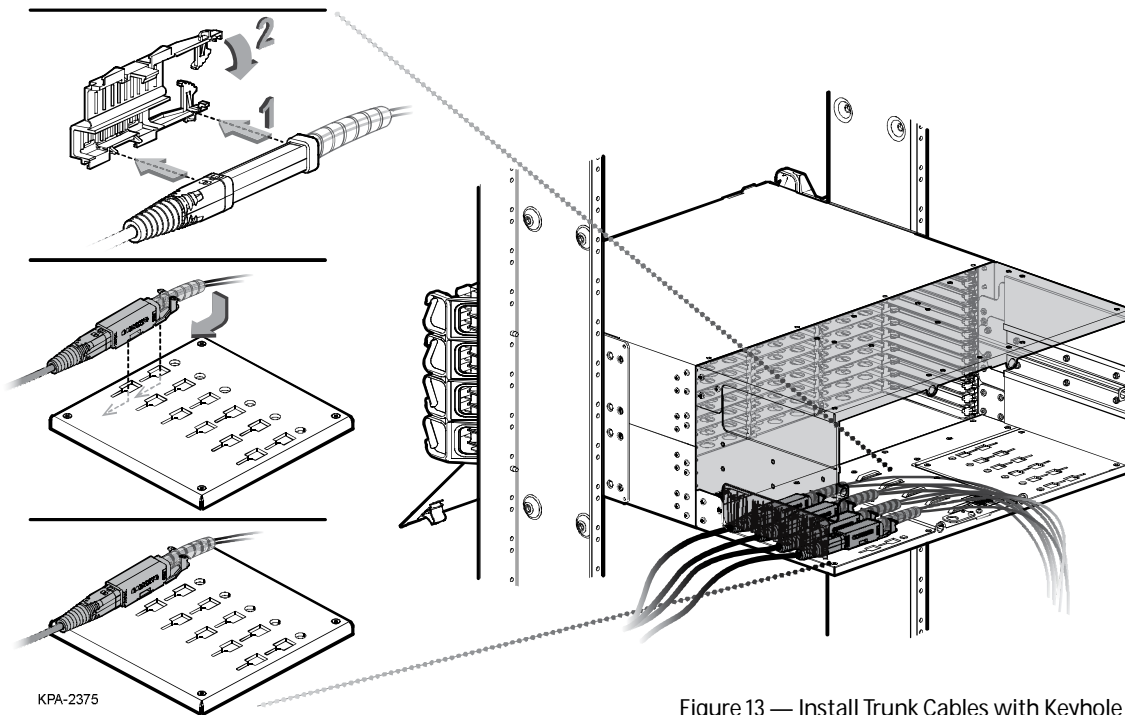
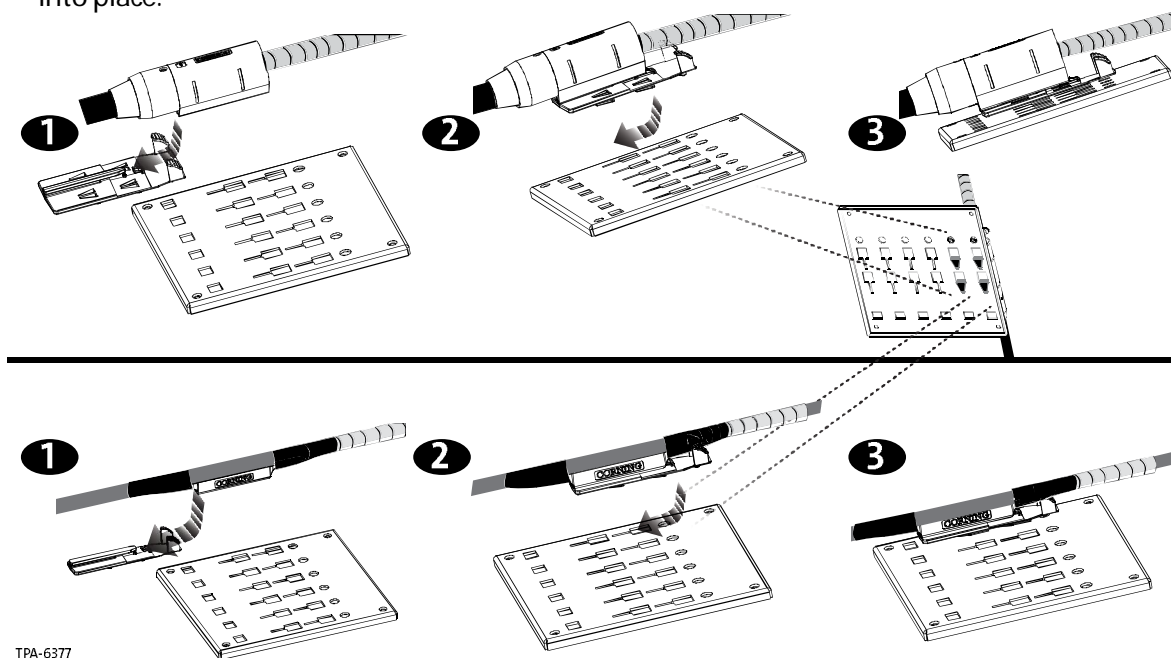

Figure 13 — Install Trunk Cables with Keyhole Cradle
Figure 14 – Install Trunk Cable with Keyhole Adapter
Step 3: Insert furcation plug into cradle as seen in Figure 12 or Figure 13 and mount cradle onto CDF bracket (Figure 11).
Step 2: Open cradle provided inside the reel and press each trunk cable furcation plug into cradle (Figure 12 - double-stack cradle or Figure 13 - single-stack cradle).
Step 1: Orient keyhole adapter to where leg side of trunk is near keyhole adapter release tabs (Figure 14).
Step 3: Insert cradle feet into backplate as shown in Figure 13 or Figure 14 for your cradle type.